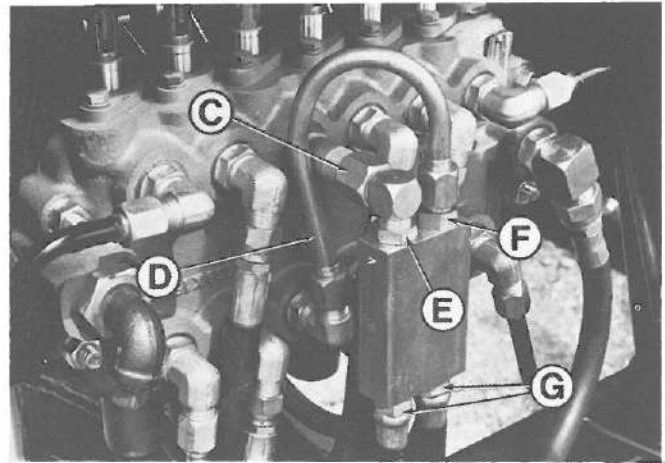

Figure 2
3. Install the long straight O-ring connector (C of Figure 2) in the top swing port of the main valve.
4. Install the tube (D of Figure 2) in the bottom swing port of the main valve.
5. Locate the top of the swing valve (indicated by a "V" on the side of the valve). Install three O-ring connectors at F and G of Figure 2. Install a 90° O-ring swivel ell with jam nut at E of Figure 2.
6. Attach the O-ring connector (C of Figure 2) to the O-ring swivel ell at E.
7. Attach the tube (D of Figure 2) to the right top port of the swing valve (F).
8. Connect the swing hoses to the lower ports of the swing valve (G of Figure 2).
You must first place the transport chains in their operating position. To do this, disconnect the transport chains from the boom. (You may have to raise the boom in order to relax the tension of the chains.) Then lower both stabilizers to the ground. Connect the free ends of the transport chains to the storage holes in the plates beneath the foot pads (B of Figure 2).